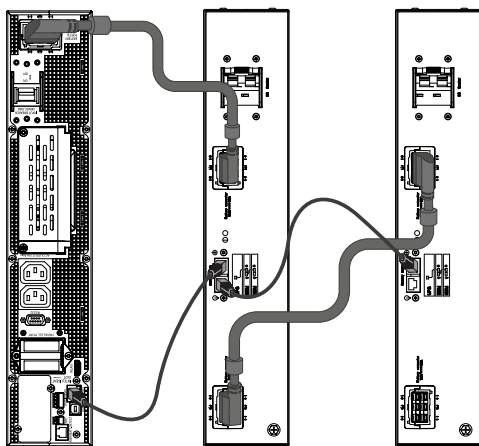

Fig. 23. Connecting the battery modules to the UPS.
Connect the battery modules in parallel using the cables with built-in RJ45 connectors (item 3 Fig. 23), as shown in the following figure: